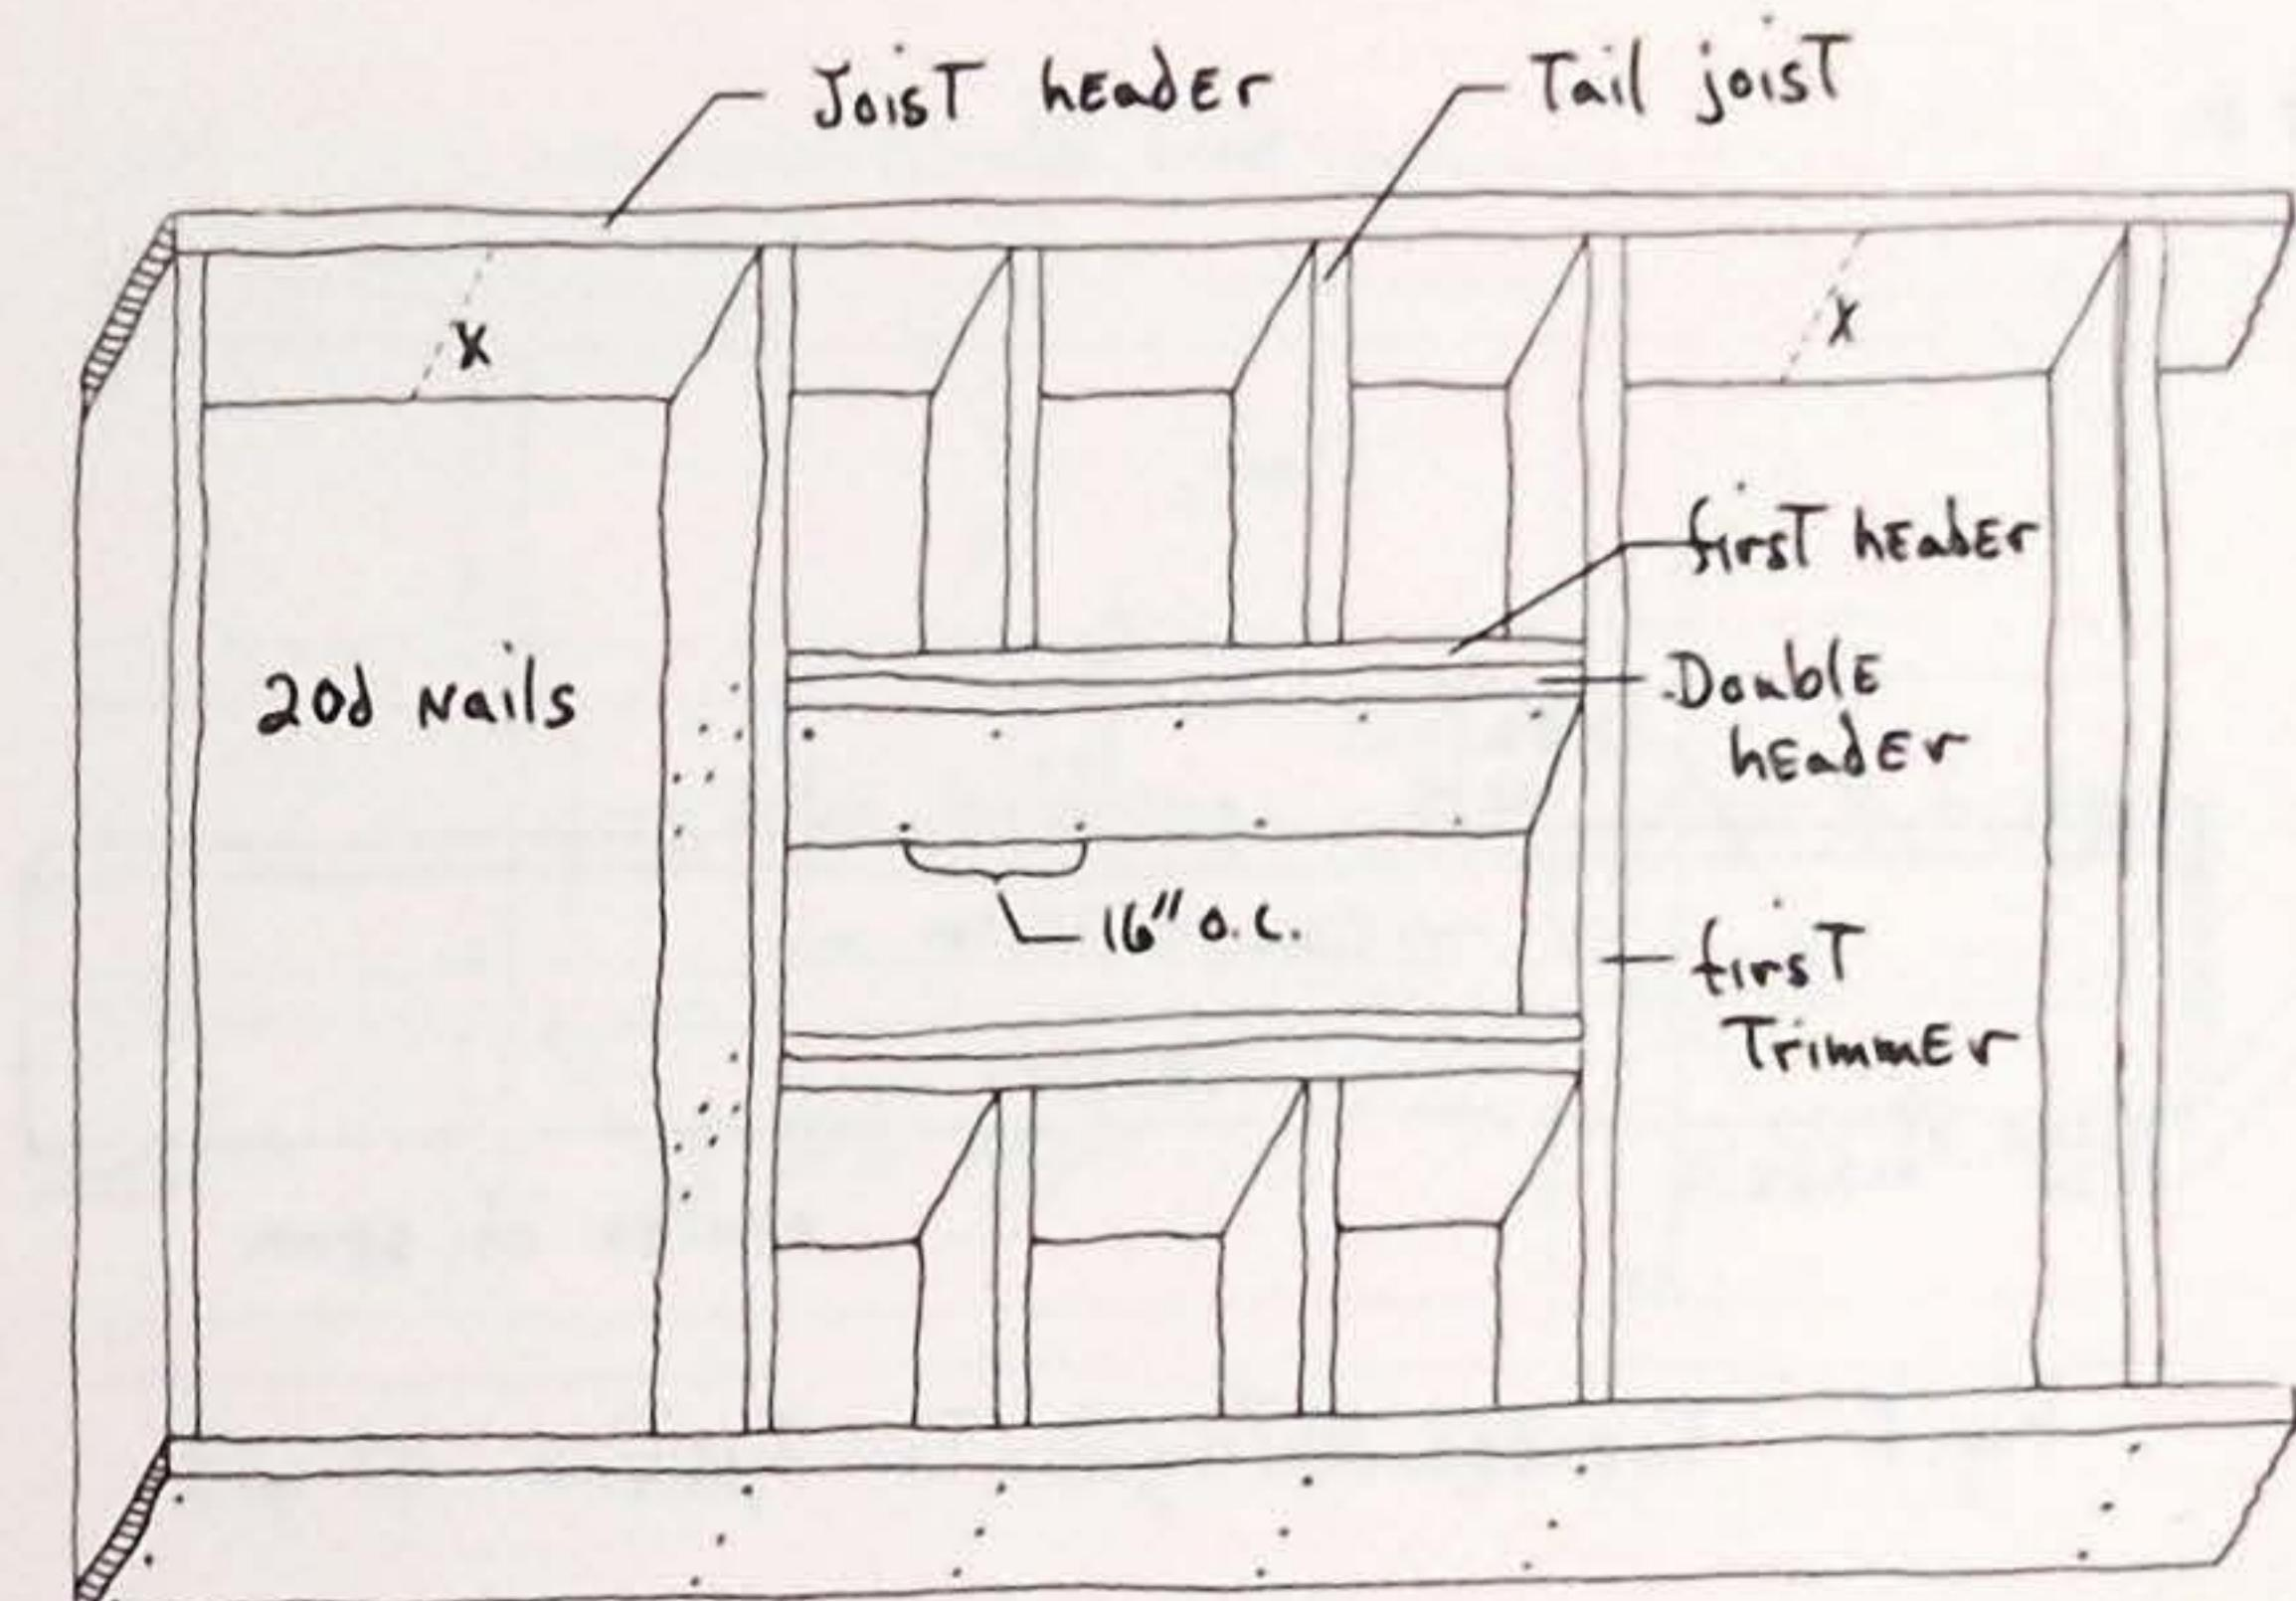

Fig. 9-Installing The Tail Joists
3. Install the remaining tail joists. Nail them with three 20d nails to both header joist and header. Nail the double header to the first header with 16d nails spaced 16" O.C. along each edge. Then face nail the double header to the first trimmer with three 20d nails. Fig. 9.
Walls: Fig. 9